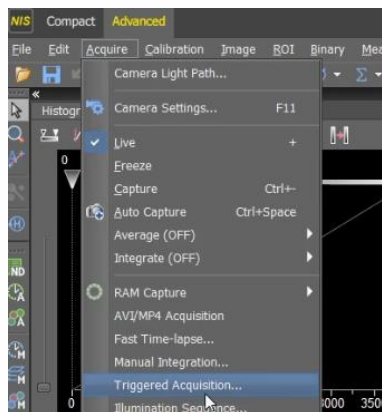

Figure 8: To open the Triggered Acquisition Pad, navigate to 'Acquire' and select 'Triggered Acquisition...'
5. The LED sequence is configured using the Triggered Acquisition Pad. To open this, navigate to 'Acquire' on the main menu, and scroll down to select 'Triggered Acquisition...' (Figure 8).